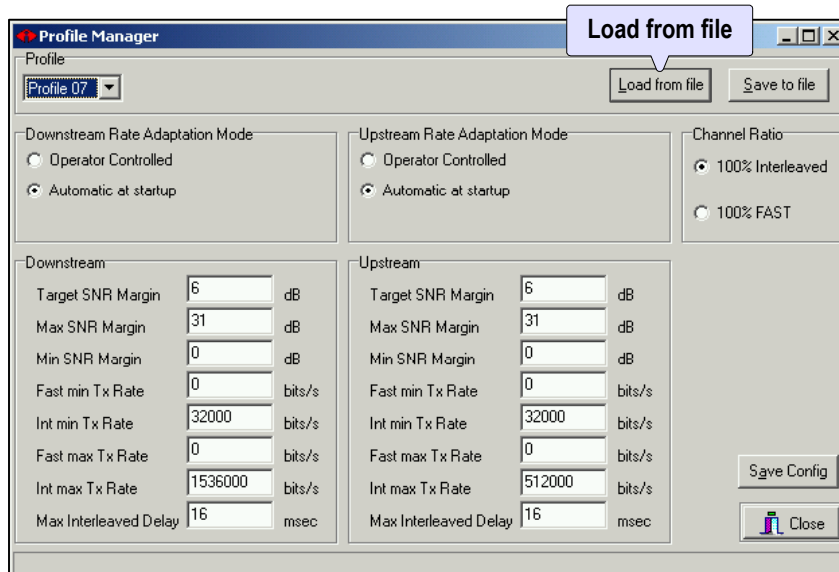

Figure 58 – Load from file
- 2 From the **Profile Manager** screen (Figure 58) or the **Alarm Profile Manager** screen, click **Load from file**.